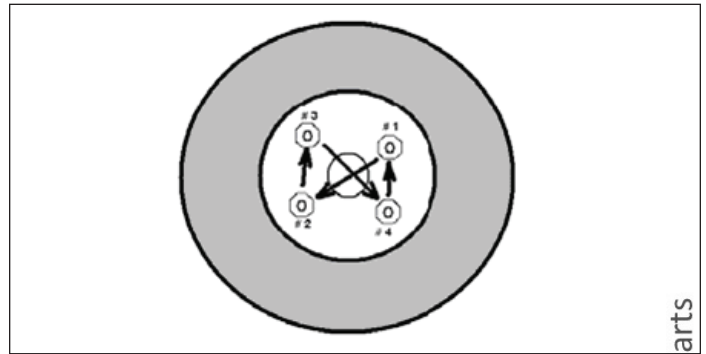

Figure 5-8. Lug Nut Tightening Pattern
8. Reinstall rear wheel/tire assembly and four lug nuts. Engage brake and tighten lug nuts in a criss-cross pattern to a maximum 65-70 ft. lbs. (23-25 Nm) (Figure 5-8). Repeat for other rear wheel. Recheck lug nut torque with vehicle on the ground.